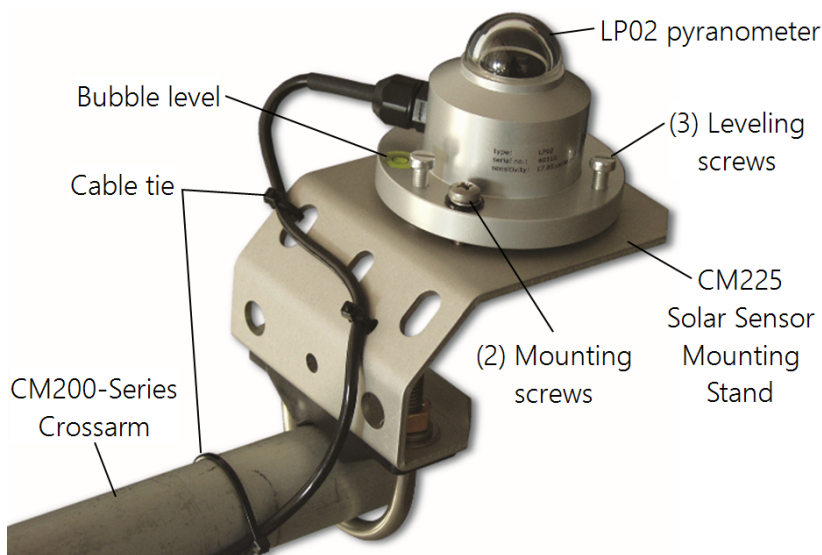

FIGURE 7-4. LP02 Pyranometer attached to CM225 Solar Sensor Mounting Stand
4. Place the mounting screws in the mounting holes and slightly tighten them. The leveling screws should lightly touch the mounting plate (see FIGURE 7-4 (p. 9)).
5. Starting with the leveling screw nearest the bubble level, turn the leveling screws to bring the bubble of the bubble level within the ring (see FIGURE 7-4 (p. 9)).
8. Use cable ties to secure the cable to CM225 bracket and to the vertical pipe or crossarm and tripod/tower (see FIGURE 7-4 (p. 9)).